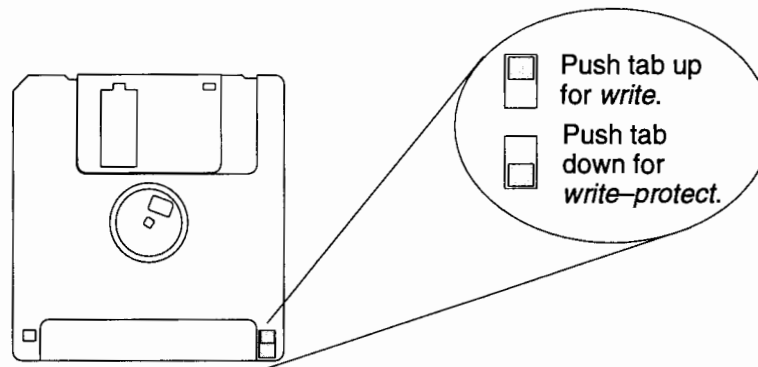

Figure 5-1. Setting the Write-Protect Tab on a Floppy Diskette
You can only store or change information on a diskette when the write-protect tab is in the *write* position. So, before trying to write to the diskette, make sure that the write-protect tab is in the *write* position, as shown in Figure 5-1.
To protect files on a diskette from being overwritten, set the write-protect tab to the *write-protect* position, as shown in Figure 5-1.
2. Make sure that the write-protect tab on the floppy diskette is in the *write* position, as shown in Figure 5-1.